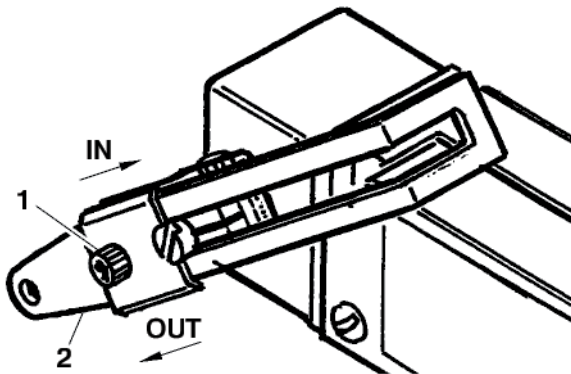

Figure 5-16. Setscrew "B" Location
- If the lower flap travel does not fall into the lower limits, loosen setscrew "B" (**Figure 5-16,1**) on the actuator arm (**Figure 5-16,2**) slightly.